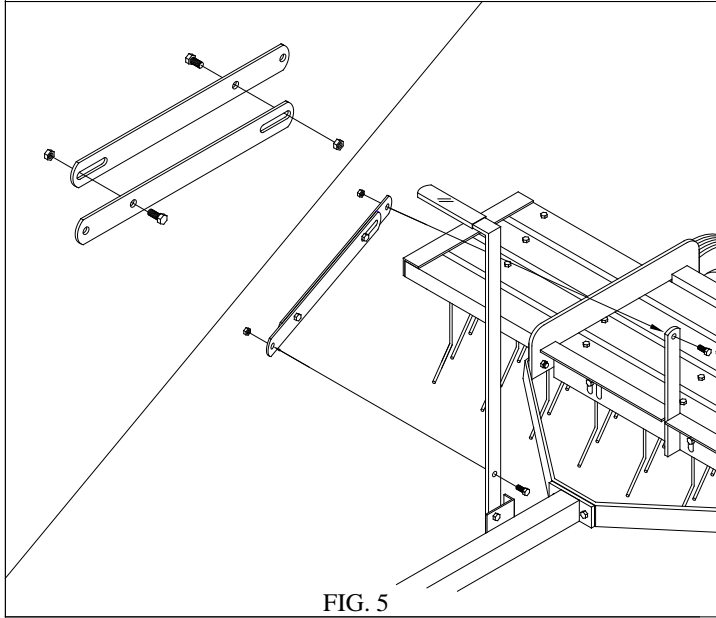

FIG. 5
5. Bolt together two (2) Lift brackets (G) with 5/16 x 3/4" HHC and Whizlock nuts as illustrated. Bolt one end of the assembled lift brackets to the top hole in the lift handle (E). Bolt the other end of the lift brackets to the upright bracket on the frame mount (B) Do not tighten hardware until all adjustments have been made. **Fig. 5**